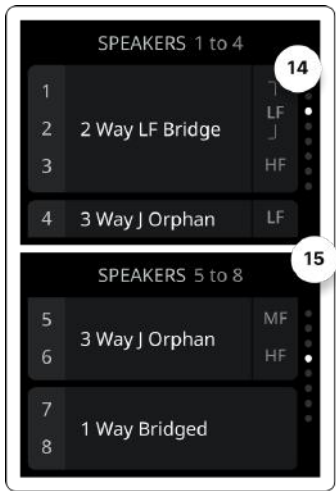

Fig. 1.9 - Multiple Ways bridged preset
Multiple-way bridged presets (14) are displayed as in Figure 1.9. A preset can be displayed across multiple pages (15).